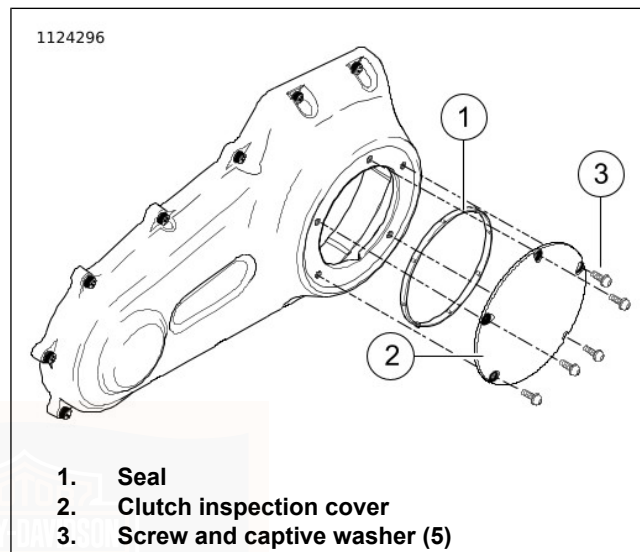
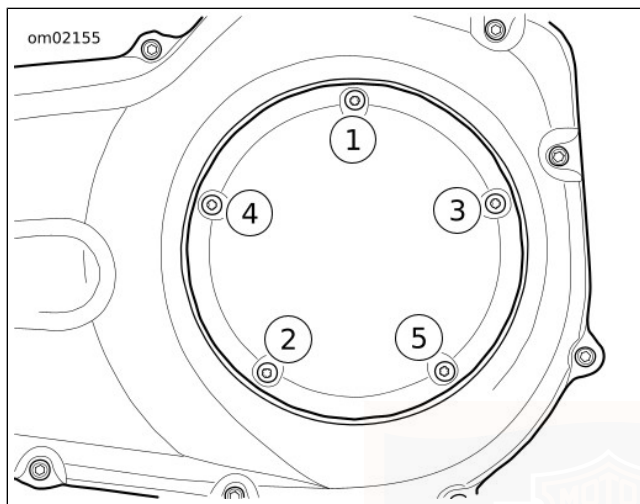

Figure 66. Clutch Cover (Typical)
Figure 67. Clutch Cover Tightening Sequence
6. See Figure 66. Remove screws (3) and clutch inspection cover (2).
7. Remove seal (1). Wipe oil from groove in chaincase cover and mounting surface.
- b. See Figure 66. Position **new** seal (1) in groove in clutch inspection cover (2). Press each of the nubs on seal into the groove.
- c. Secure clutch inspection cover (2) with screws with captive washers (3).
- d. See Figure 67. Tighten in sequence shown to 9.5–12.2 N·m (84–108 **in-lbs**).